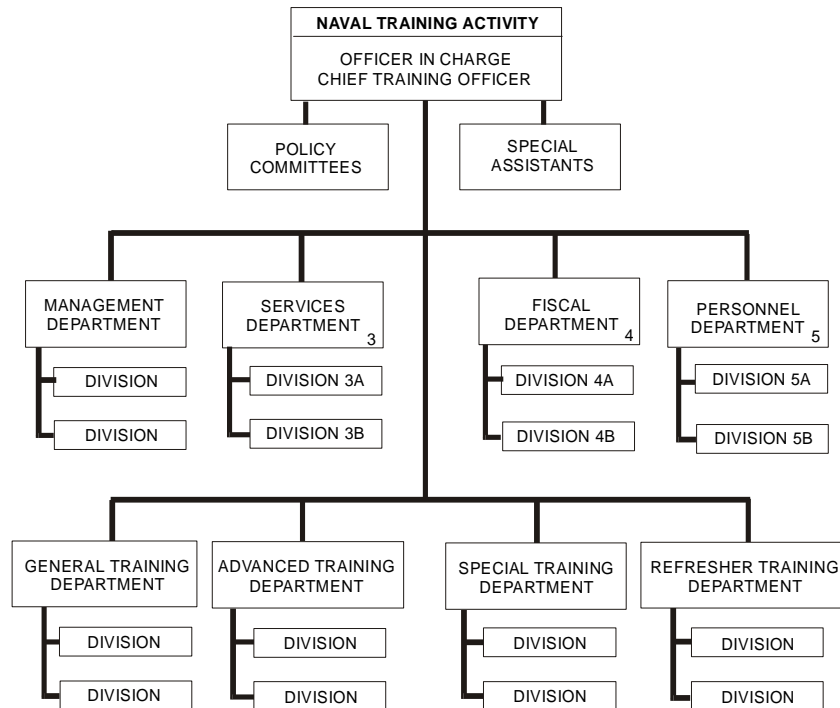

Figure 3-5. Large structural organizational chart.
- (1) Organization charts should be limited to be effective. The chart should show lines of authority, responsibility, span of control, and functional authority. The military uses three basic types of organizational charts: structural, functional, and positional, as well as combinations of the three types.
- The structural organizational chart is the most common and simplified method of presenting the organizational plan. It shows the basic control relationships and reporting responsibilities of a unit. The textual information it contains is minimum. This chart can be devised for any organization, regardless of size. See Figures 3-5 and 3-6.